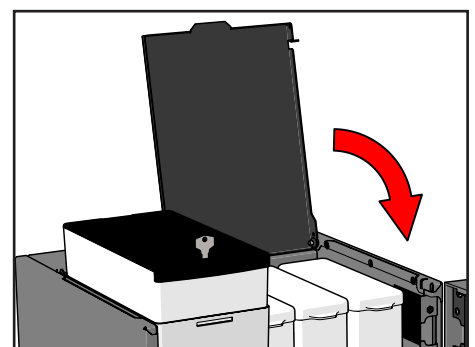

Figure 68. Close top cover
6. Close the top cover (see Figure 68).